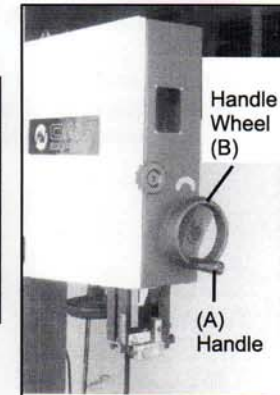

Fig. 2
1. Attach the handle (A, Fig. 2) to the hand wheel (B, Fig. 2), lock the screw then connect to the machine.
The upper blade guide should always be set as closes practical against the work. To adjust, loosen the hand wheel (A, Fig. 2) at the side of housing and see the blade guide to the required height then tighten after setting.